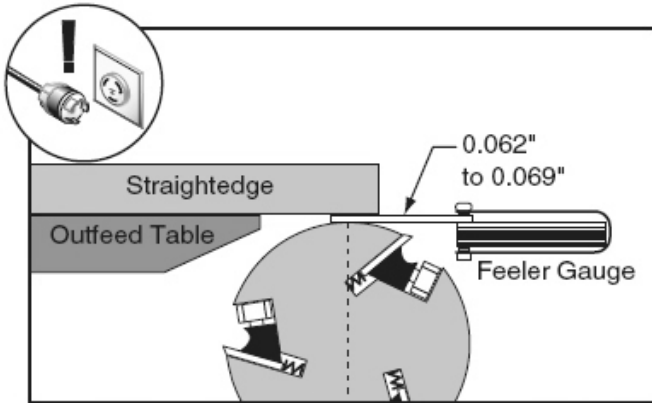

Figure 32. Using feeler gauge to check outfeed table–cutterhead height.
4. Try to fit a feeler gauge or combination of feeler gauges 0.062" to 0.069" between the bottom of the ruler and the cutterhead body as shown in **Figure 32**.